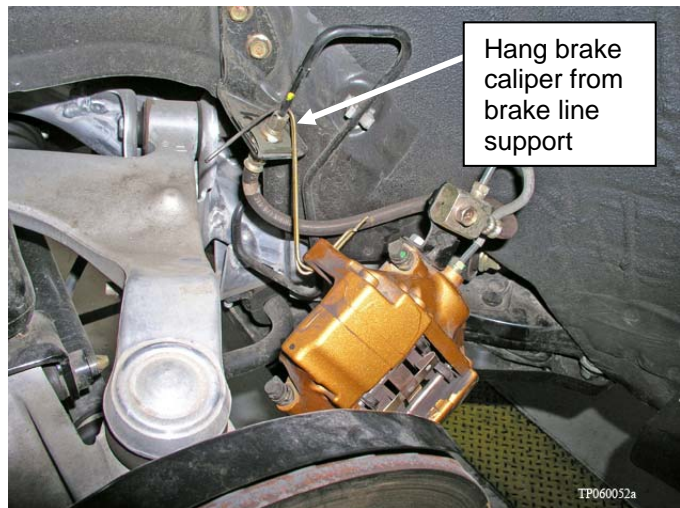

Figure 2
5. Remove both brake calipers and hang them from the brake line supports with wire (see Figure 2).